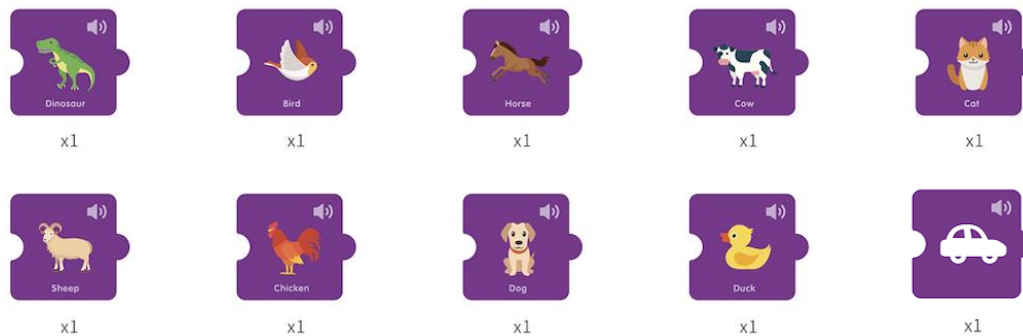

Fig. 3 Designated sound card candidates
2.2.2 The number of whistling is specified as 3 times. Excessive or less than 3 times will not be scored. The designated sound card will be chosen from Fig. 3, and the referee will decide and inform the players about the designated sound card before the competition.